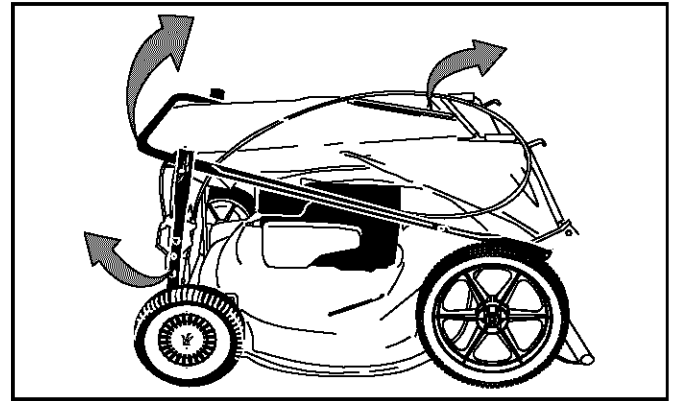

Figure 2
- Lift up and pull back on the upper handle to raise the handle into the operating position. Make certain the lower handle is seated securely into the handle bracket assemblies. Tighten the wing nuts on each side of the handle (carriage bolts must be seated properly into the handle). See Figure 2.